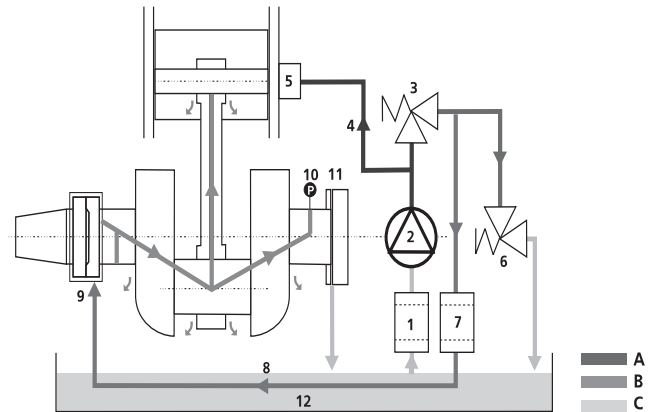

Fig. 1.6-7 Control and lubricating oil system
1.6.9 CONTROL AND LUBRICATING OIL SYSTEM (Fig. 1.6-6 and Fig. 1.6-7)